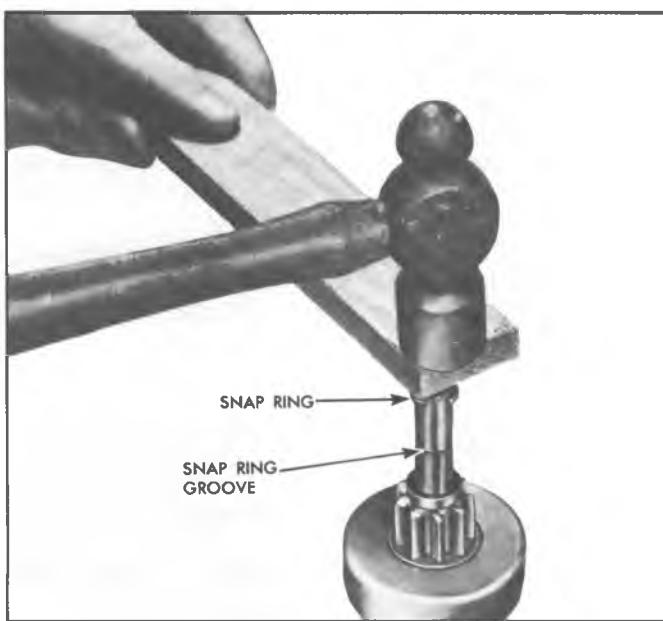

Fig. 6D-9S--Forcing Snap Ring Over Shaft
f. Place armature flat on work bench, and position retainer and thrust collar next to snap ring. Then using two pair of pliers at the same time (one pair on either side of shaft), grip retainer and thrust collar and squeeze until snap ring is forced into retainer (fig. 6D-10S).